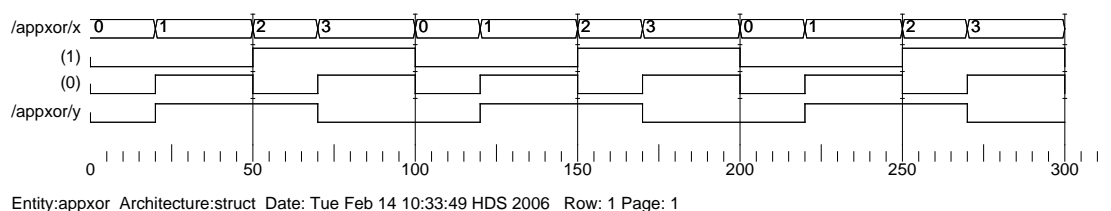

Figure 2: Simulation waveforms for an XOR gate
Now the big moment: in the **Block Diagram** window select **Simulation → Run → For Time**. The result displayed in the **wave - default** window should be similar to that in Figure 2.
- Simulate all three gates to obtain simulation waveforms similar to those in Figure 2, however